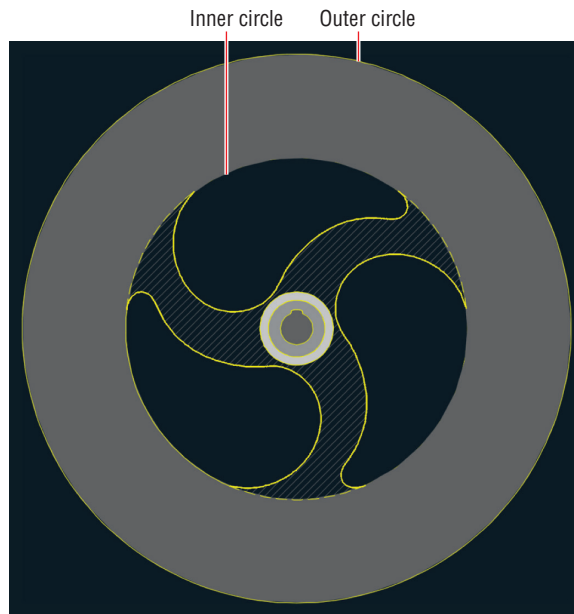

FIGURE 8.9 Hatching the outer portion of the rotor by selecting objects
3. Type H (for Hatch) and press Enter. Click the Select tool in the Boundaries panel of the ribbon's Hatch Editor tab. Select the circle making up the inner circle of the rotor and then select the single outer circle. Select Solid in the Pattern panel and press Enter. The hatch appears correctly (see Figure 8.9).